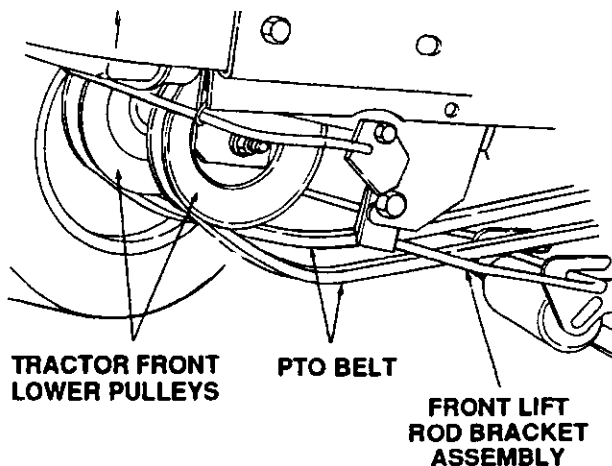

Figure 20
16. Twist the PTO belt 1/4 turn to engage the narrow sides of the belt into the grooves of the two tractor front lower pulleys. Push belt towards center double pulley on deck making sure it is between the legs of front lift rod. (Refer to Figure 20.)